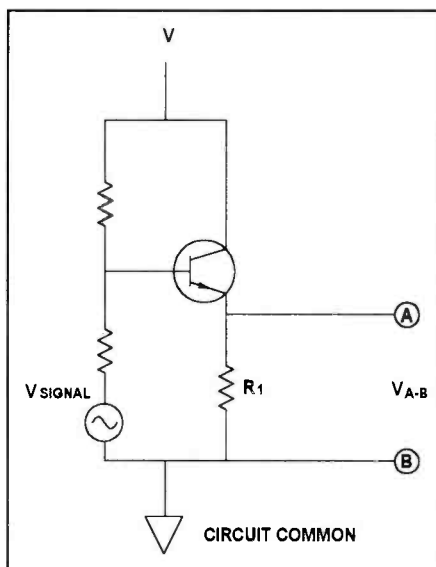

Figure 1. Observing the waveform at the output of this transistor circuit seems to be a simple proposition. But is it?
This other point is usually the circuit's ground, which is assumed to be 0V. For an example, let's assume we wish to use a scope to measure the voltage (referenced to ground) at the emitter of the transistor in Figure 1. This may appear to be a simple circuit, but by referring to Figure 2 we can see how complex the actual signal measurement environment can become when we include the scope probe and the ground connections between the scope and the circuit.  $V_{A-B}$  represents the transistor emitter voltage waveform that we wish to display on the scope.  $Z_{CIRCUIT}$  is the resistance of the emitter-connected resistor  $R_1$  in parallel with the emitter impedance of the transistor. We will assign a point as an *ideal earth ground* in the circuit so we have a solid point of reference.  $Z_{SCOPE\ GND}$  is the impedance of the scope's power cord ground lead.  $Z_{COMMON}$  is the impedance between the circuit common and the ideal earth ground point. The value  $i_{COMMON}$  represents currents (ground loop) flowing through  $Z_{COMMON}$  from other sources, such as other instruments connected to the circuit under test and results in  $V_{COMMON}$ .
**Figure 2.** The actual complexity of the signal measurement environment of the circuit of Figure 1 becomes apparent when the effects of the scope probe and ground connections are added to the circuit diagram.